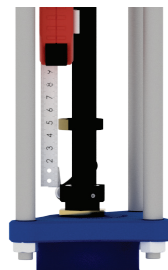

Figure 7
2.4.6) Tighten the stop collar to the correct measurement (see Figure 7).